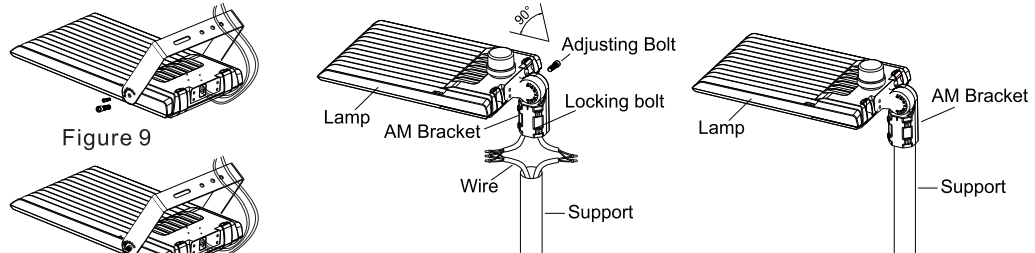

Figure 9
5. FLOOD MOUNTING (FM)
Step 1: First install two big screwst. (Figure 9)